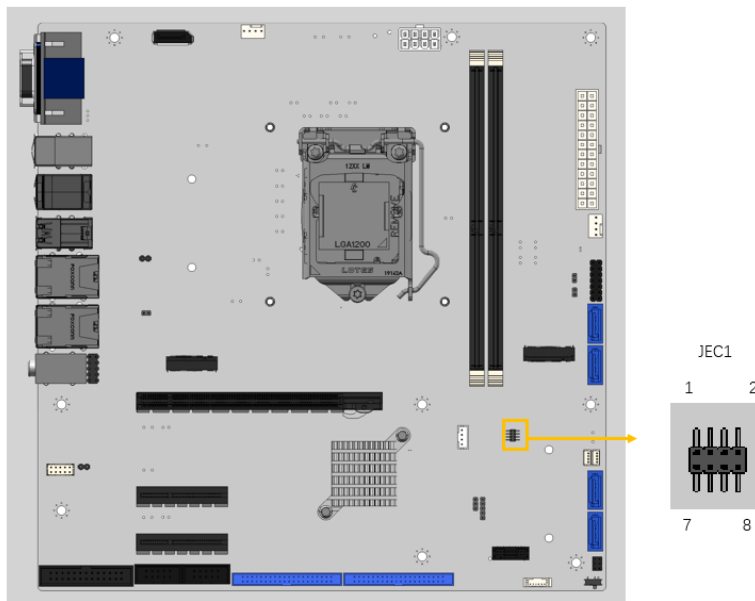

Figure 3-33: Flash EC ROM Connector Location
- CN Location:** See **Figure 3-33**